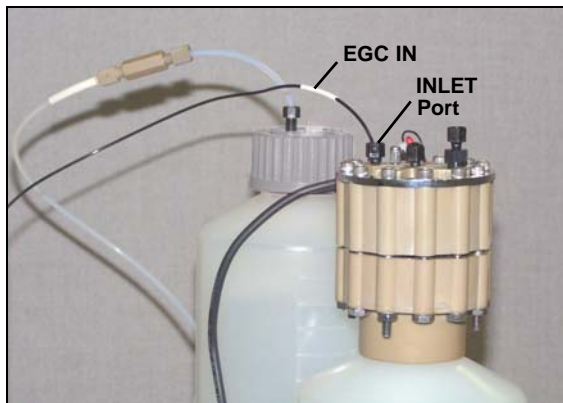

Figure 45. EGC Inlet Port Connections
5. Connect **EGC IN** to the **EGC INLET** port (see Figure 45).